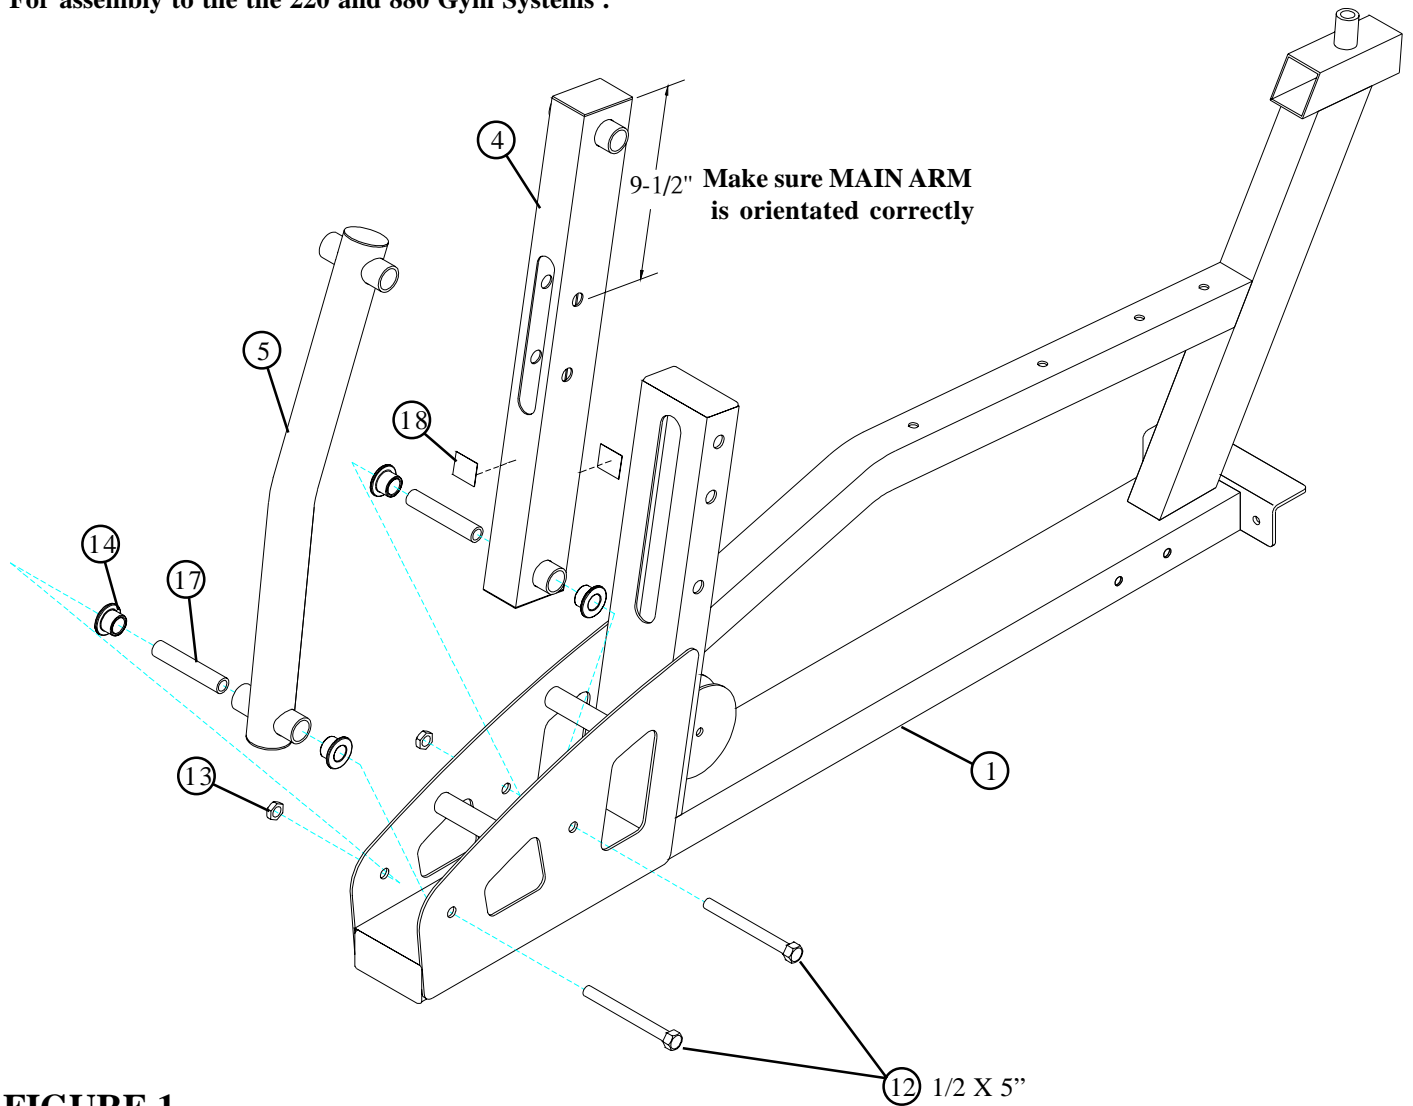

FIGURE 1
- **SECURELY** assemble the SECOND ARM (5) to the FRAME (1) using one 1/2 X 5" BOLT (12), two 3/4" FLANGE BEARINGS (14), one 3/4 X 4" SHAFT (17) and one 1/2" LOCK NUT (13). See FIGURE 1.
- **SECURELY** assemble the MAIN ARM (4) to the FRAME (1) using one 1/2 X 5" BOLT (12), two 3/4" FLANGE BEARINGS (14), one 3/4 X 4" SHAFT (17) and one 1/2" LOCK NUT (13). See FIGURE 1. (**NOTE: Make sure MAIN ARM is orientated correctly, top hole should be 9-1/2" from the top of arm as shown in FIGURE 1.**)
- **SECURELY** assemble two 1" SQ. GLIDES (18) to each side of the MAIN ARM (4) where the MAIN ARM (4) contacts the FRAME (1) See FIGURE 1.